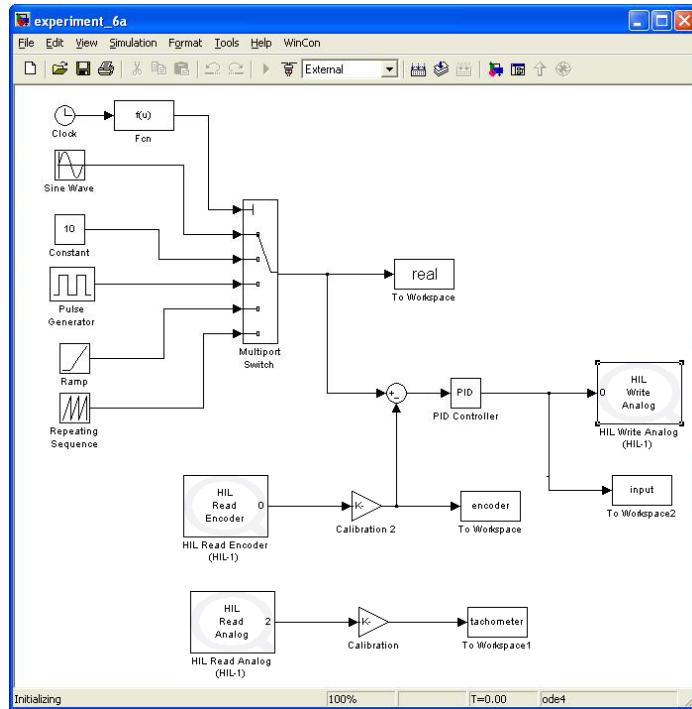

Figure 3.5: Simulink model for the implementation of multiple inputs and PID control
9. Change the reference angle trajectory to add more switching times within a period. To make things interesting, have the desired angle behave as four different functions on different intervals. This can be achieved by preparing the Simulink model shown in Figure 3.5. *You do not need to use the exact same functions as shown in the figure.* Pick four functions that you think would be interesting. In this model, a number of